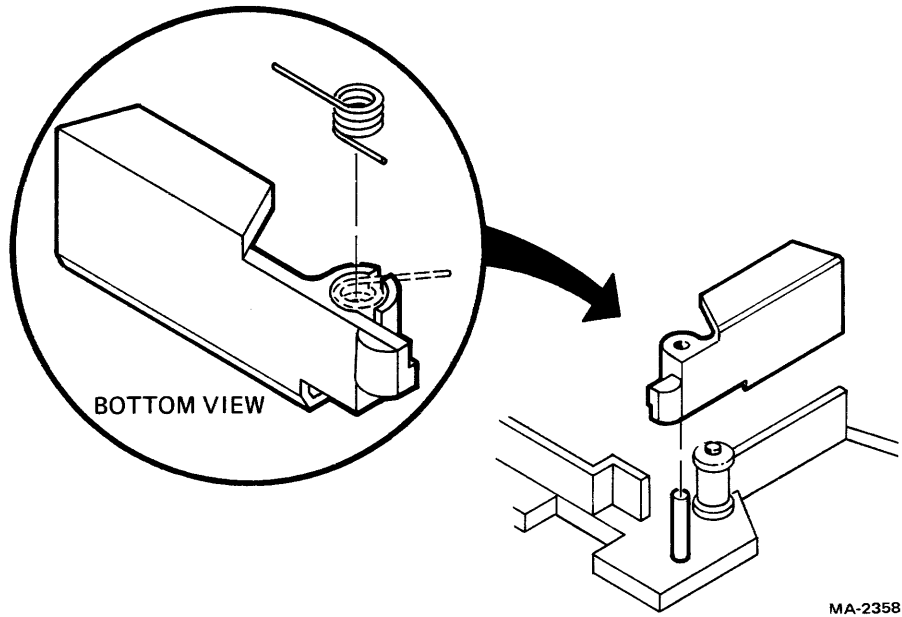

Figure 2-7 Head Gate and Spring
10. To reassemble the cartridge, reinstall the gate (if desired) by aligning the long and short ends of the spring with the long and short ends of the gate, as in Figure 2-7.